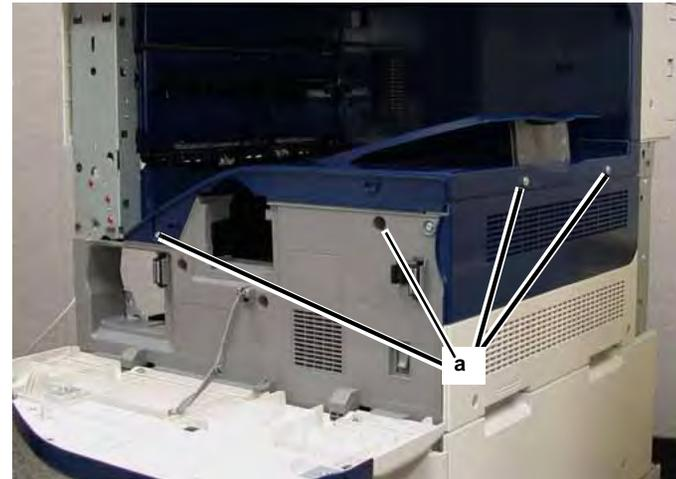

Figure 11 Removing Screws
13. Remove the Top Cover (Figure 11).
- a. Remove the Screws (4).